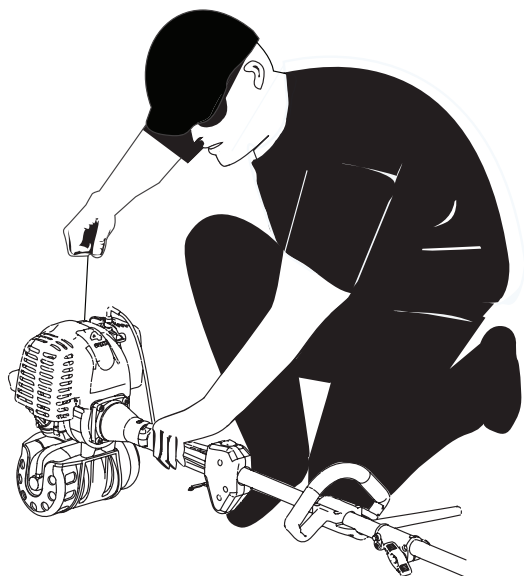

Fig. 13
3. Place trimmer firmly on the ground or a very sturdy work surface. Make sure cutting head is clear of all objects. Make sure all bystanders are a minimum of 50 feet (15m) away. Do not attempt to start near pilot lights or any open flame. Do not smoke. Grasp the starter rope handle with one hand and the handle pole with the other hand (Fig.13).
Avoid accidental starting. Make sure you are in the starting position when pulling the starter rope (Fig. 13). To avoid serious injury, the operator and unit must be in a stable position while starting. Make sure that any add-on item is installed correctly and secure before starting the unit.